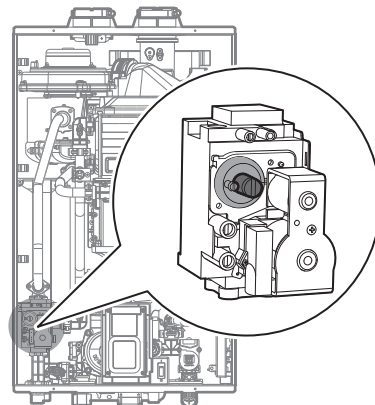

Figure 8. Set Screw Location
- Fully open several hot water fixtures and set the water heater to operate at 1-stage MIN mode (refer to page 59). Measure the CO2 value at low fire. If the CO2 value is not within 0.5% of the value listed in Table 2, the gas valve set screw will need to be adjusted. If adjustment is necessary, locate the set screw as shown in Figure 8. Using a  $\frac{5}{32}$  in or 4 mm Allen wrench, turn the set screw no more than  $\frac{1}{4}$  turn clockwise to raise or counterclockwise to lower the CO2 value.